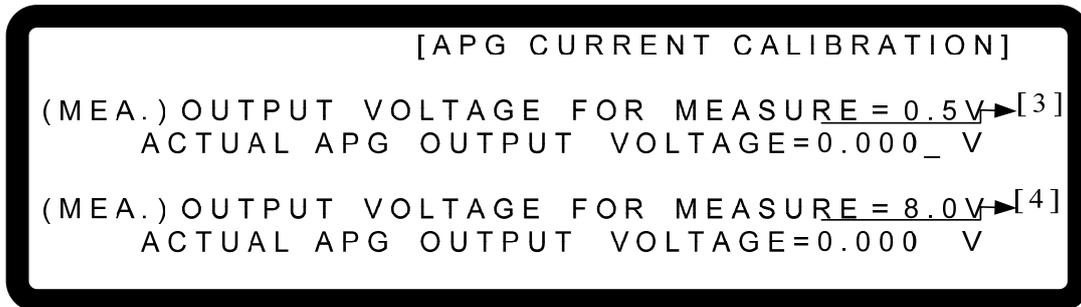

Figure 3-119
6. Press again the system will set the output voltage of Pin 19 on the rear panel to 0.5V and the cursor stops at position [3] as Figure 3-119 shows. Input the voltage read by DVM2 to position [3] and press to confirm.
7. Press again the system will set the output voltage of Pin 19 on the rear panel to 8.0V and the cursor stops at position [4] as Figure 3-119 shows. Input the voltage read by DVM2 to position [4] and press to confirm.